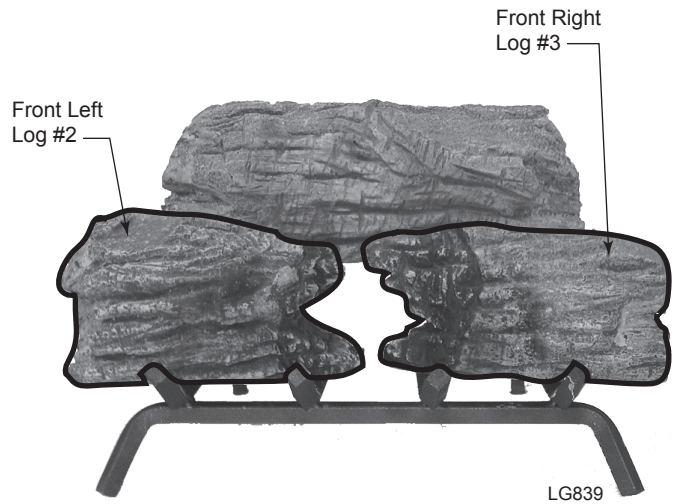

Figure 19 - Place Front Left and Right Logs on Grate
- 3. Place front left log #2 on the front of the grate and to the left. *Figure 19*
- 4. Place front right log #3 on the front of the grate and to the right. *Figure 19*